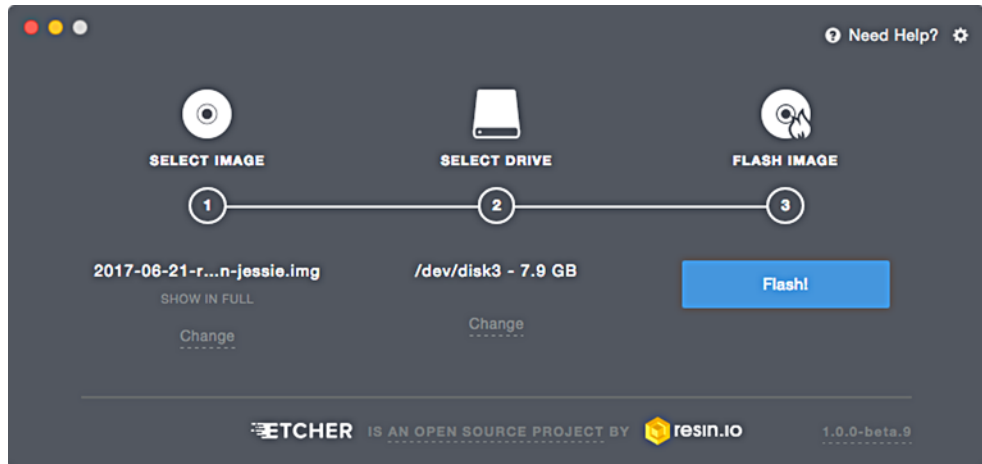

Figure 11.7 Etcher is a straightforward utility: select the disk image file, select the drive (it often auto-selects for you), and go.
- c Launch Etcher and follow the steps to put the IMG file on the microSD card (figure 11.7).